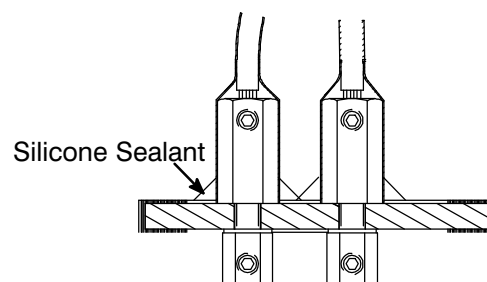
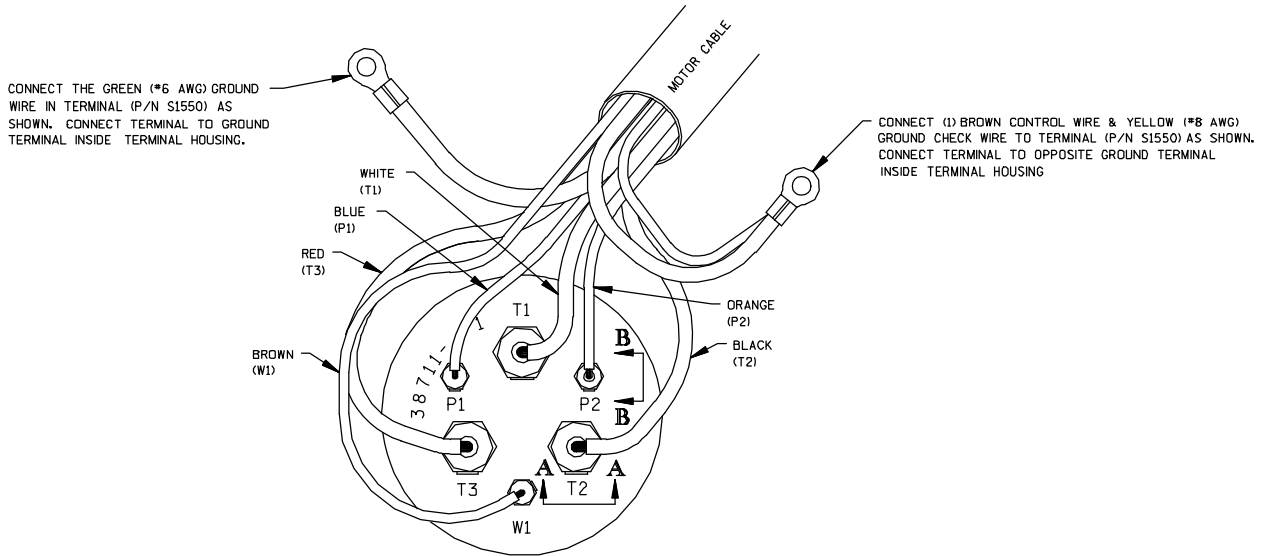

Figure C-4. Silicone Adhesive Sealing
Figure C-5. Terminal Housing Wiring Connections
Slide a length of heat-shrink tubing (10 and 27) up over each of the power cable leads. Insert the leads in the terminal collars and secure them using the allen head setscrews (11 and 25). See Figure C-5 for wiring connections.
See Figure C-5 and check terminal locations. Apply a 1/4 to 3/8 in. (6,4 to 9,7 mm) thick layer (maximum) of silicone adhesive around each of the terminal posts as shown in Figure C-4. Remove any adhesive from gasketed surfaces.
Position the lower terminal plate gasket (21) on the terminal plate (22). Refer to Figure C-5. Attach the appropriate motor lead (T1, T2, T3, P1 and P2) to each terminal post (15 and 17) using the allen head setscrews (16 and 18).